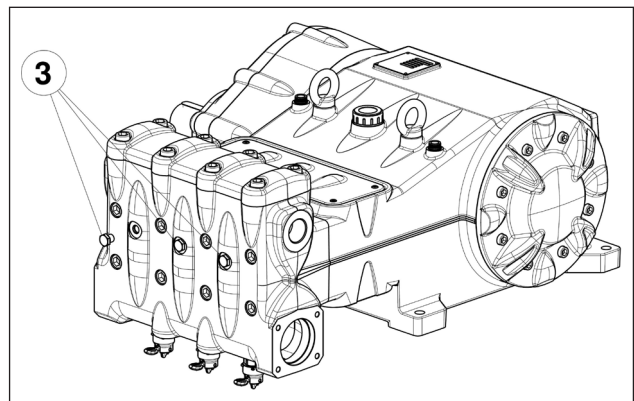

Fig. 11
Should there be any priming trouble due to insufficient supply, it is possible to remove the three plugs in front of the head (except for the MK40 version) as shown in pos. ③ Fig. 11.